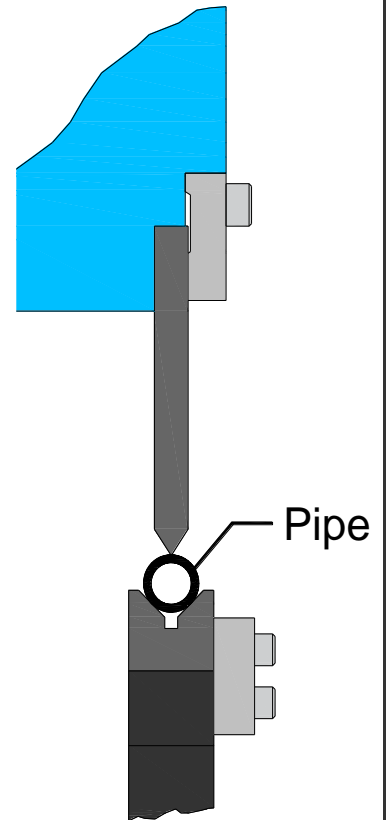

figure 21
3. Place a straight piece of .5" to .75" (12.7 to 19mm) diameter tubing (approx.) 42" (1067mm) long in the brake die "V"- groove as shown in (fig.21.)